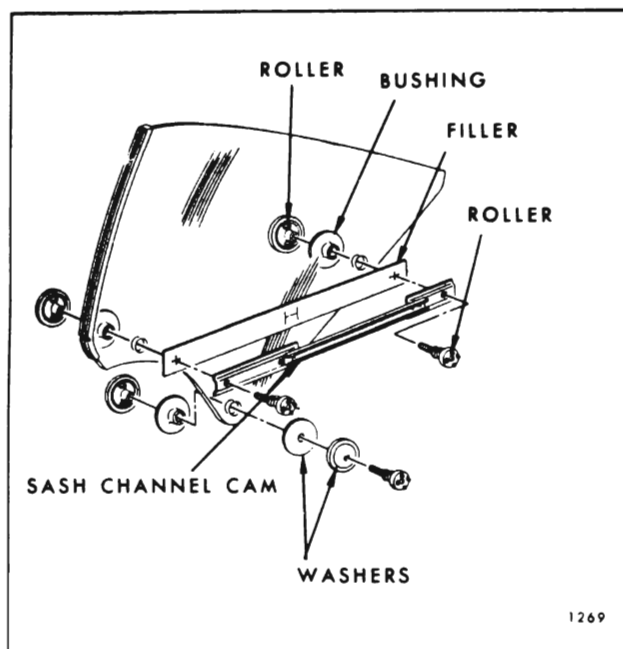

Fig. 7-39—Rear Quarter Window Assembly - "Z-37" Styles
4. To install, reverse removal procedure. Figure 7-39 is an exploded view of the quarter window assembly and identifies the various components and their assembly sequence.